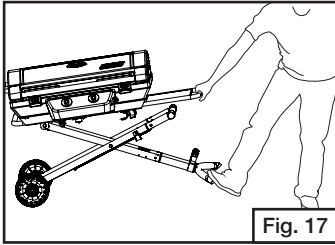

Fig. 17
- Place foot on towing handle, grasp fixed side table handle and lift. (Fig. 17)